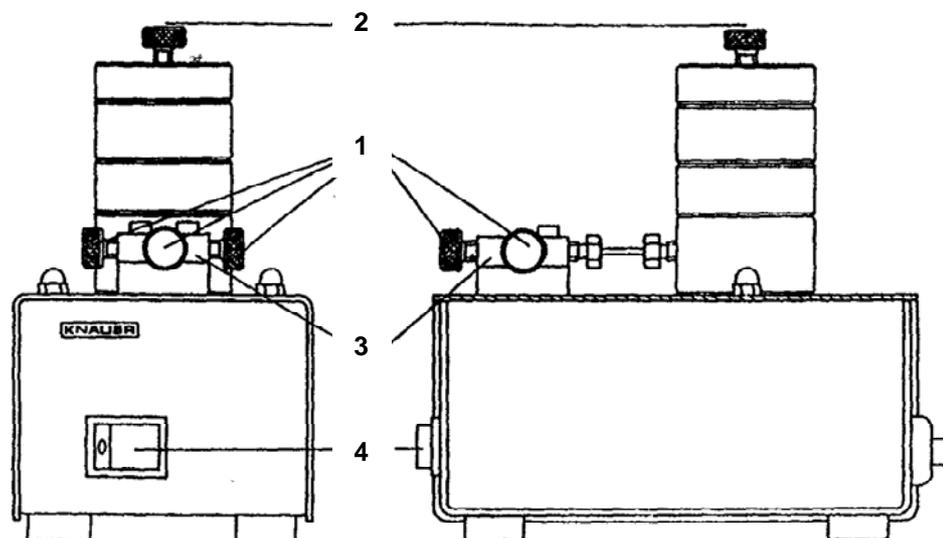

Fig. 1 General View of the KNAUER Mixing Chamber
The chamber of the instrument (Fig. 1) is composed of four (preparative version three) parts and is set on a housing together with a four-way 1/16" (1/8") capillary connector, which is used as inlet connection. The chamber and the connector are connected by a stainless steel capillary. The four-way capillary connector already functions as a premixer.
2. Connect the outlet of the mixing chamber (2, Fig. 1) to the injection valve, then proceed as above.